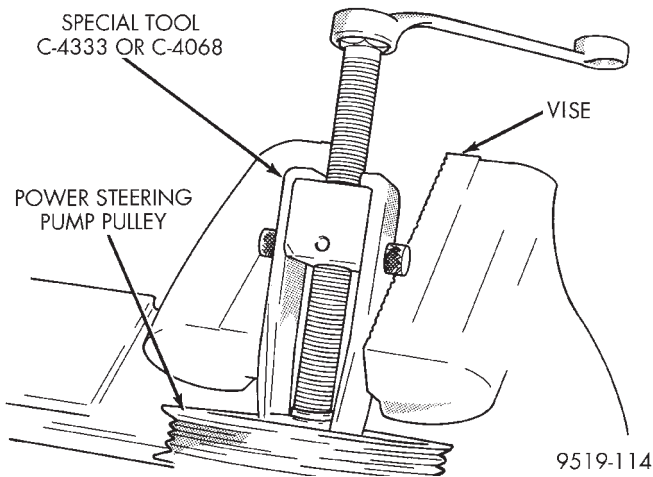

Fig. 27 Removing Pulley From Power Steering Pump Shaft
(2) Mount Puller, Special Tool C-4333 or C-4068 on power steering pump pulley. Mount power steering pump and puller in a vise (Fig. 27) to keep shaft of power steering pump from turning when removing pulley.